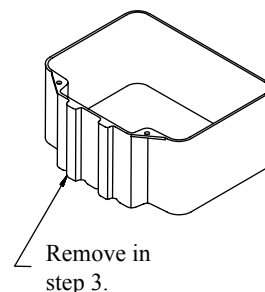

Figure 2.
3. Remove the plastic fascia bracket shown in Figure 1. and the trunk pan cover shown in Figure2. and return to vehicle owner. Note: Trunk pan cover may be trimmed and reinstalled if required.